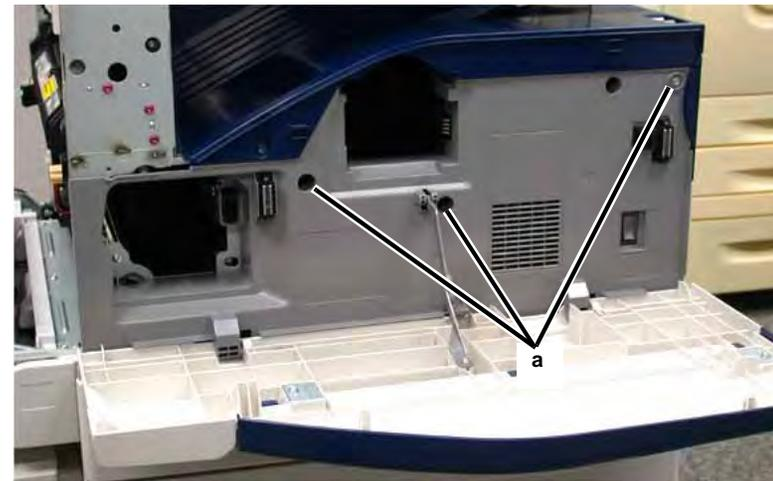

Figure 6 Removing Screws
7. Remove the Front Cover (Figure 6).
a. Remove the Screws (3).